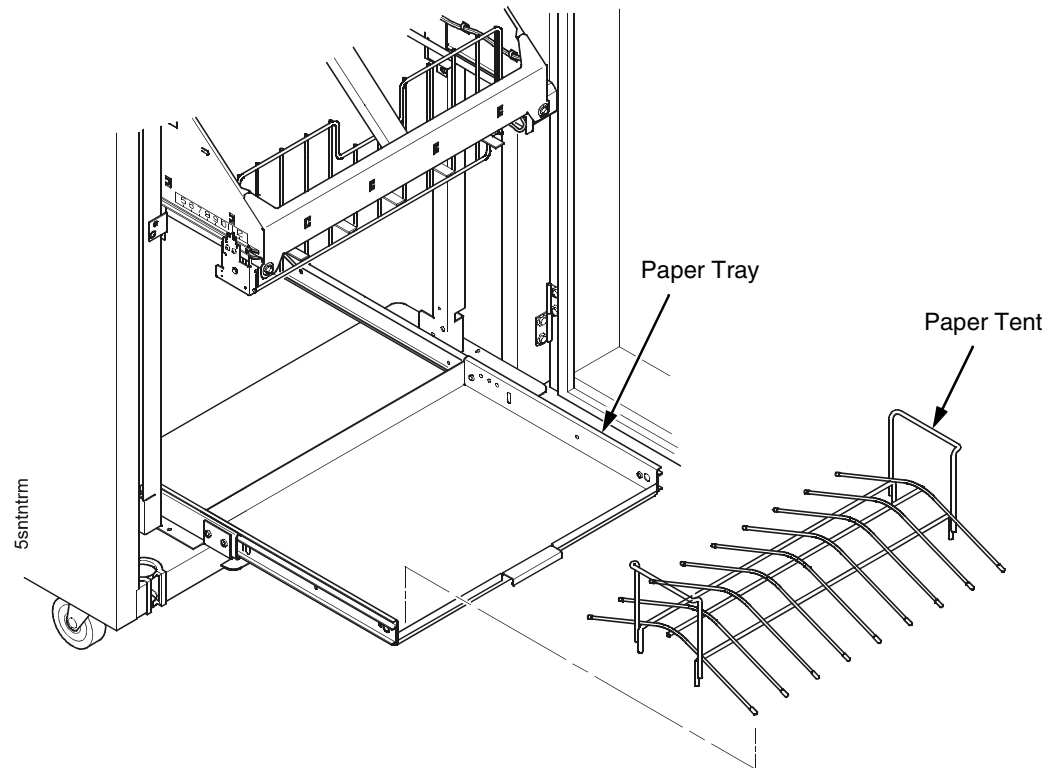

Figure 62. This figure shows how to remove the paper tent.
4. Remove the paper tent (if present). (Figure 62.)